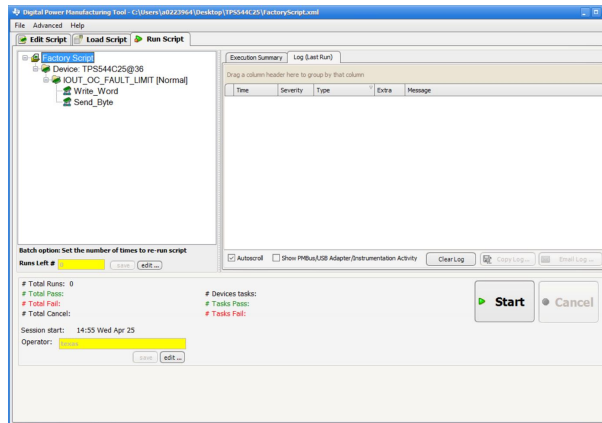

Figure 34. Saving and Loading Script
- Click Save and Load to save the file and load it to the device (shown in Figure 34).